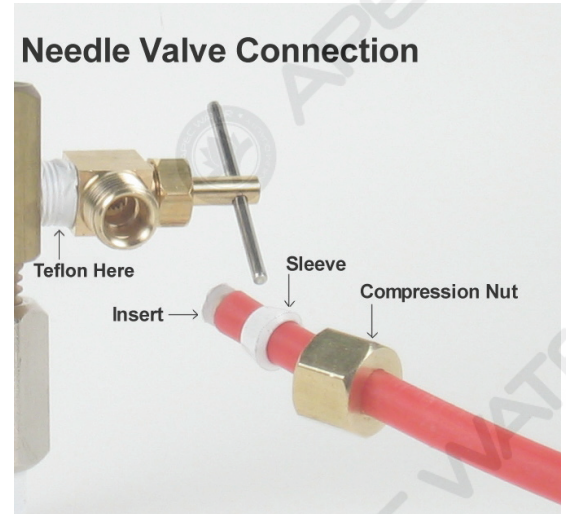

Fig. 5D
4. **Needle Valve:** See Fig. 5D. Screw the Needle Valve onto the Adapter tightly. Apply 6-8 rounds of Teflon tape onto Needle Valve before attaching it to the Adapter.